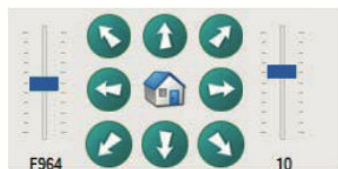
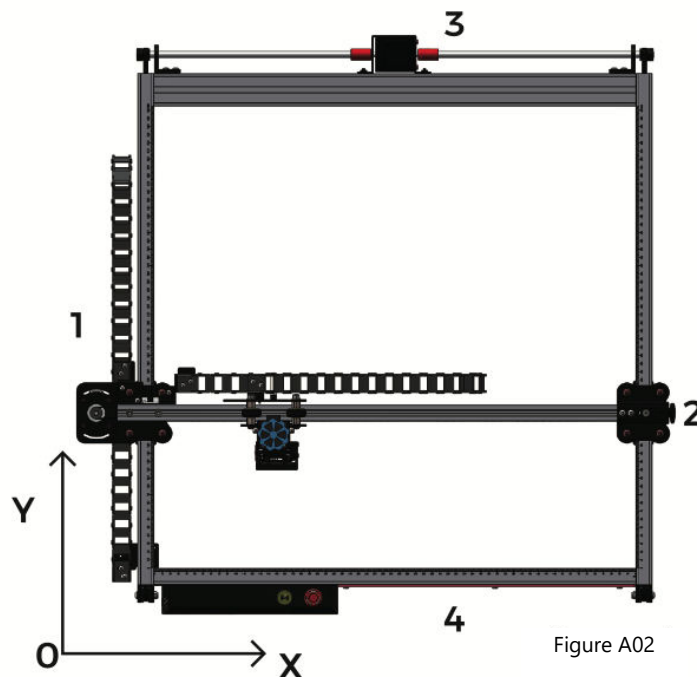

Figure A01
Figure A02
- Confirm the correct movement directions (Refer to Figure A01) and validate accurate movement distances (See Figure A02).